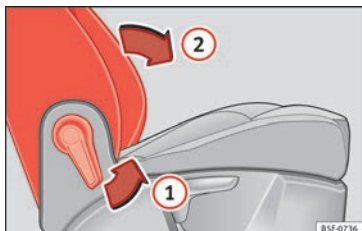

Fig. 148 Front passenger seat: lever for folding down the backrest.
- Pull lever **1** » **Fig. 148** and push the seat backrest **2** until the backrest is horizontal.